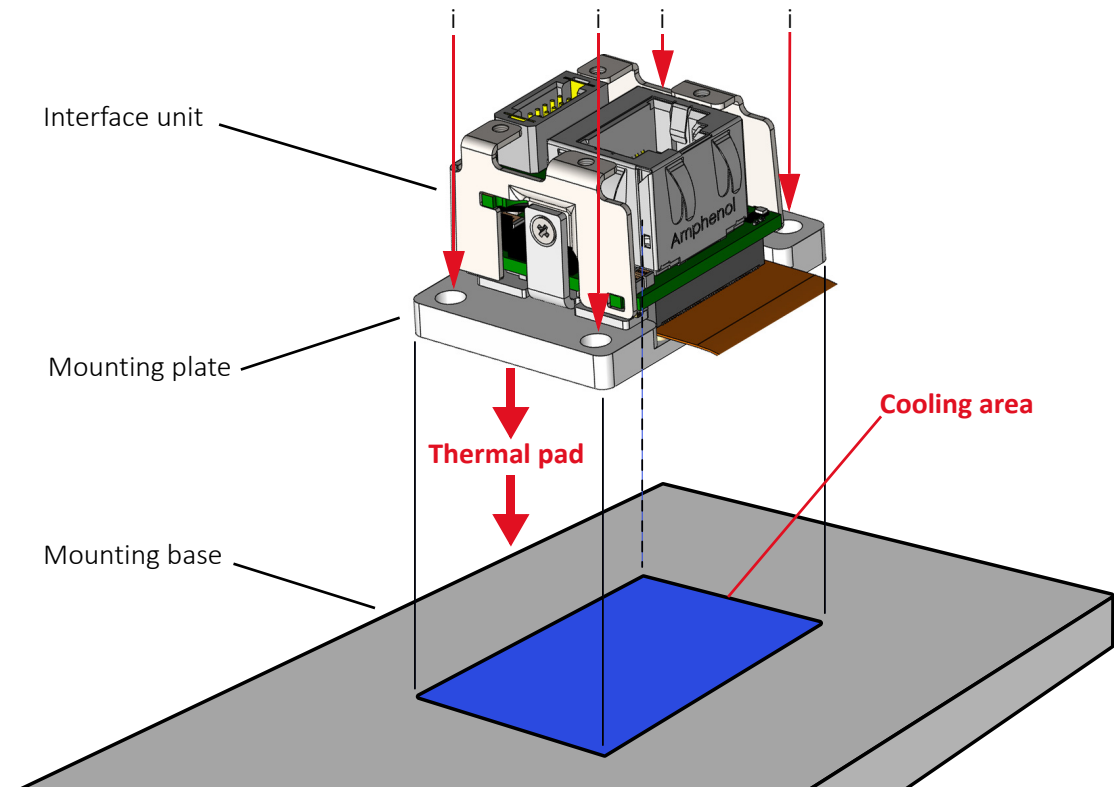

Figure 66: Mounting the G1 BL interface unit to the base
1. Using 4 compatible M3 screws (i), mount the interface unit to the mounting base, as shown in Figure 66 below.
Use a metal base with a large surface area and a thermal pad for the **cooling area** (blue area in Figure 66), to ensure optimum heat dissipation for the interface board.